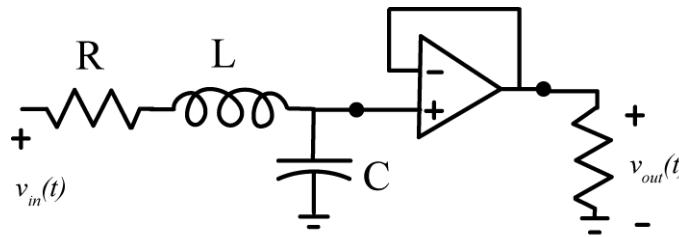

Figure 14. Our second order system
2) Modify your circuit so the plant and isolation amplifier is as shown in Figure 14. Again the resistor is $1\text{ k}\Omega$, but the capacitor is a $0.01\ \mu\text{f}$ capacitor, and the inductor is a 33 mH inductor (we've used the inductor and capacitor before in Lab 2).